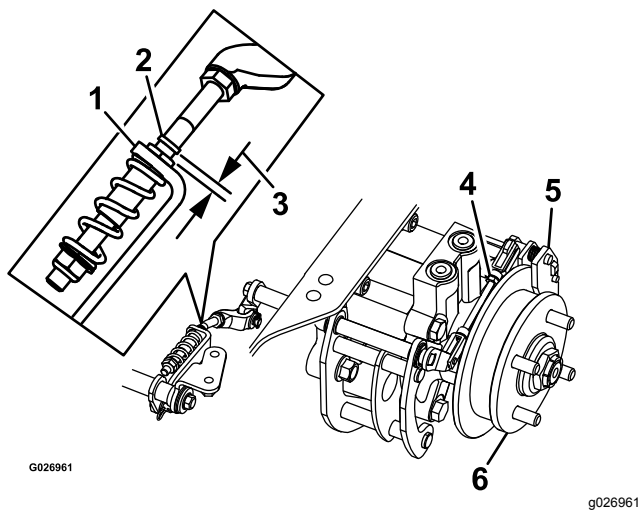

Figure 75
8. Check to see if there is a visible gap between the L-bracket and the linkage stop (Figure 75).